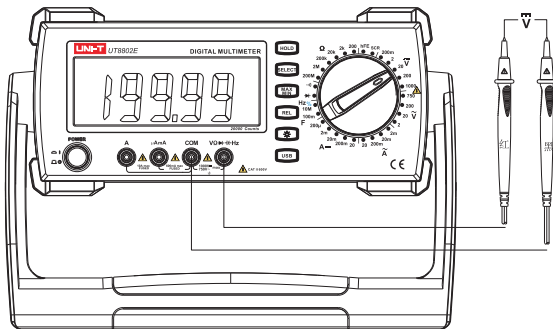

Figure 1
1.Measurement of DC voltage (see Figure 1)